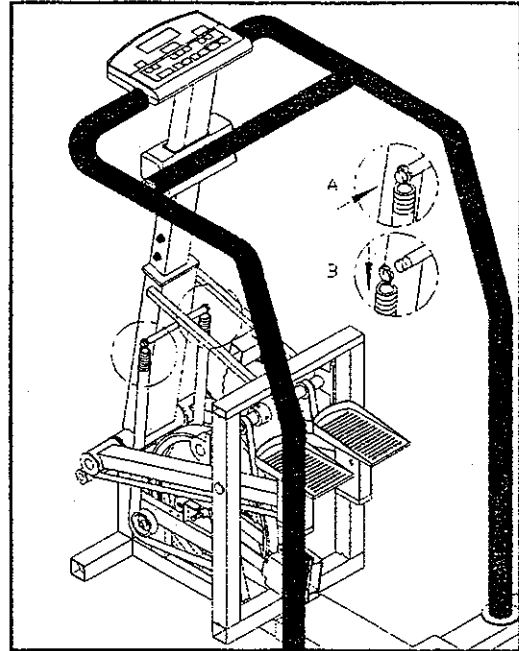

Fig. 17
5. Secure the two springs in their correct positions, following steps A and B (see Fig. 17).